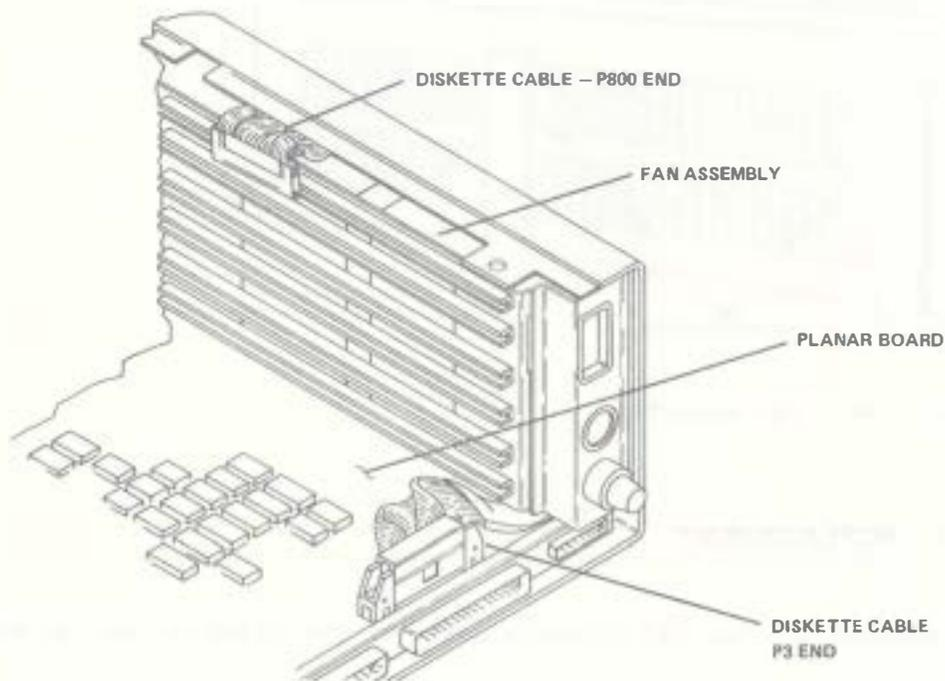

Figure 5-35. Diskette Cable
11. Transfer the 5¼" diskette cable to the fan assembly to be installed. See Figure 5-35.